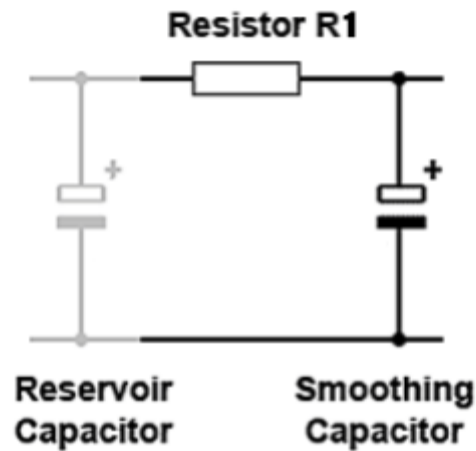

Figure 1-5
6. Next, is the pi filter which consists of a reservoir capacitor, resistor, and smoothing capacitor as shown in Figure 1-5. The reservoir capacitor acts as a temporary storage for the power supply output current. The larger the capacitor the less ac voltage ripple is shown but the longer the capacitors take to charge. Use 2200uF for the reservoir and